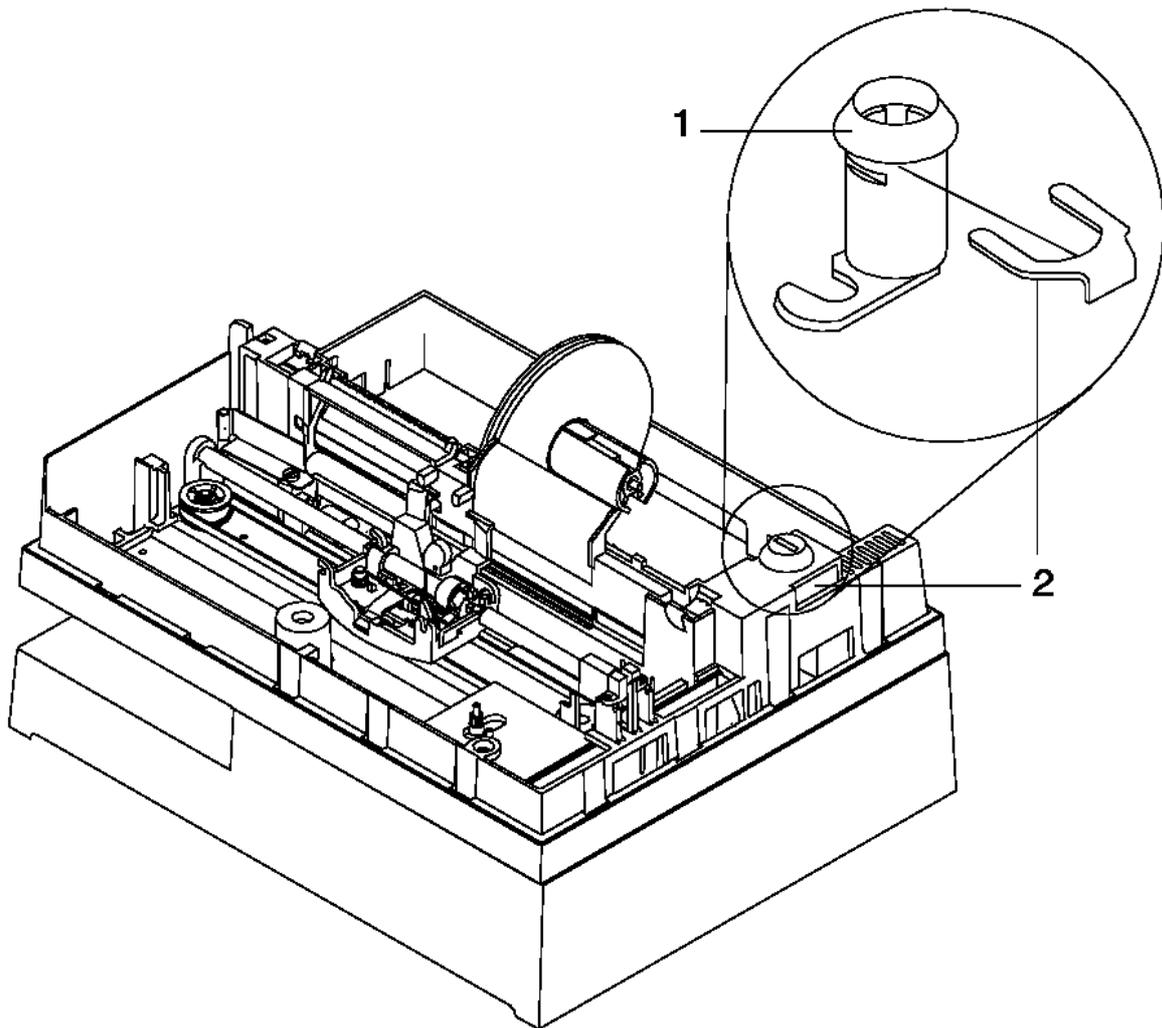

Figure 5-20. Keylock
3. Pull the retainer clip (2) down and toward the right side of the printer to release the keylock assembly (1) as shown in Figure 5-20.